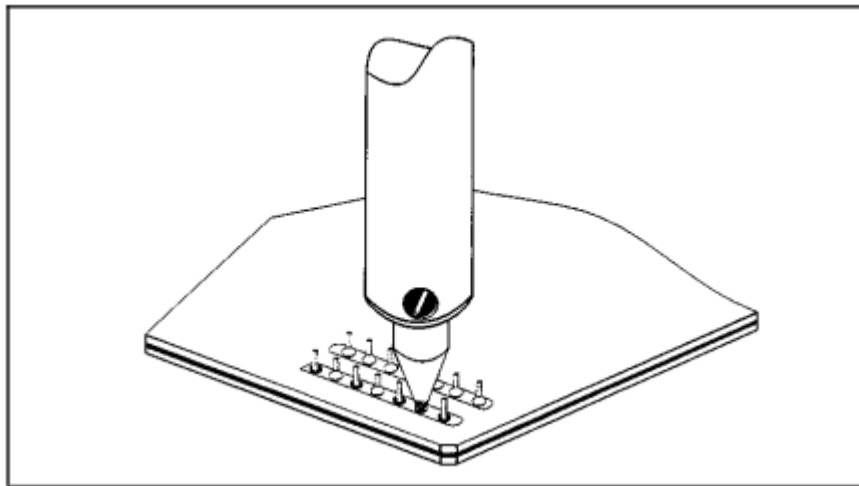

Figure2 Melt Solder
- g) Confirm complete solder melt of contacted lead. (See Figure 2.)